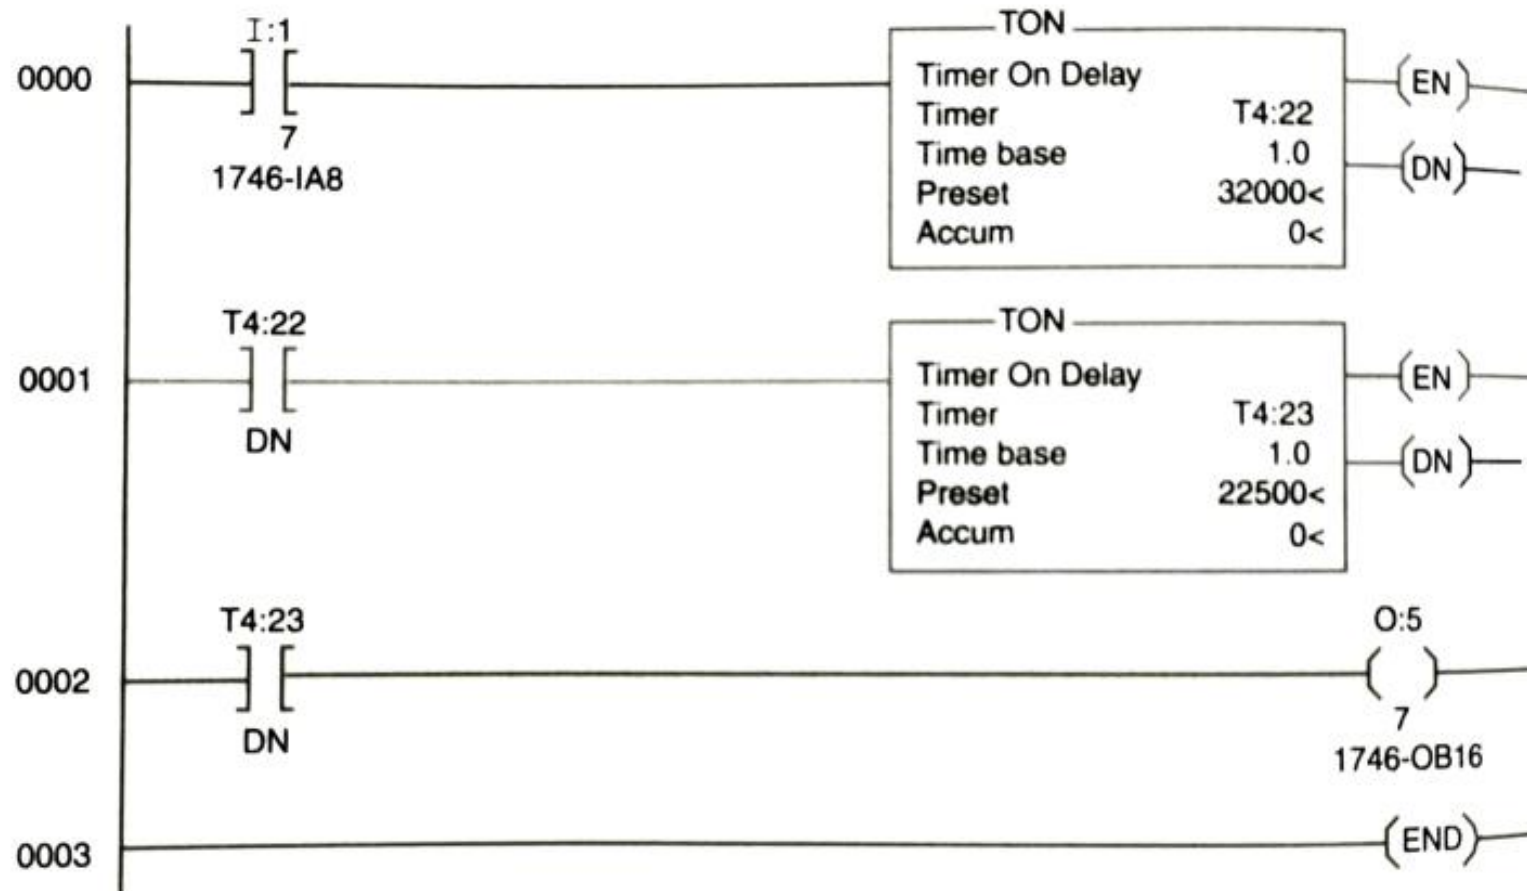

Figure 16-20 Two timers cascaded to lengthen timing.
- Figure 16-20 illustrates two timers cascaded together so as to lengthen the time that can be counted.